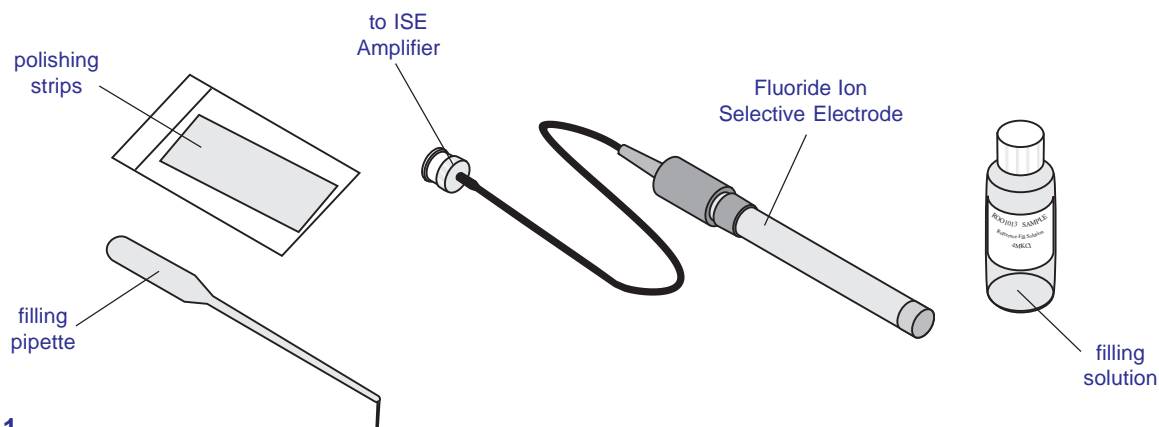

Figure 1.
Use the following low level fluoride measurement procedure in the non-linear portion of the calibration curve. (See Figure 1.) This procedure is used for fluoride samples containing less than 2×10^{-5} M or 0.4 ppm fluoride and containing no fluoride complexing agents. Use low level TISAB 2 for both samples and standards. A longer response time should be expected for low level fluoride measurements.
4. On semi-logarithmic graph paper, plot the concentration (log axis) against the millivolt reading (linear axis) as in Figure 1. Keep the final solution for checking the electrode calibration.